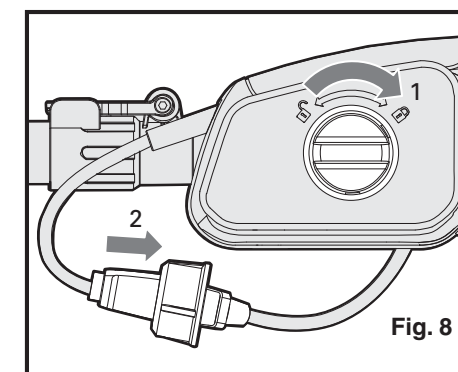

Fig. 8
4. Plug saw power cord into receptacle power cord at end of inner pole. (See Fig. 8)